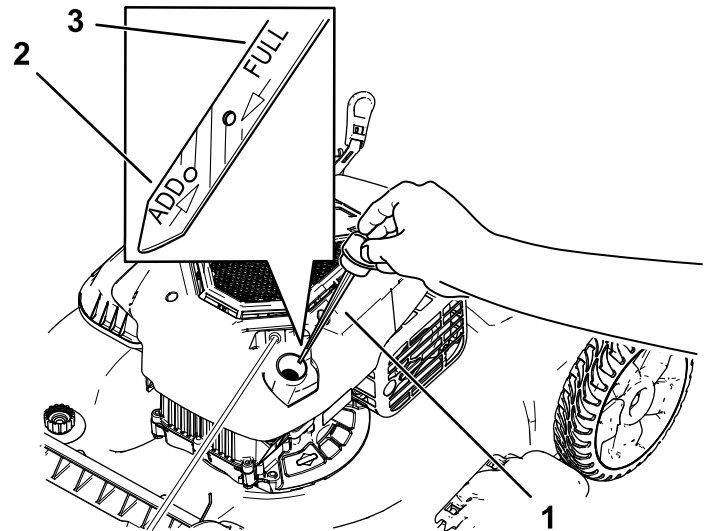

Figure 22
3. Remove the dipstick by rotating the cap counterclockwise and pulling it out (Figure 22).
10. Read the oil level on the dipstick (Figure 22).